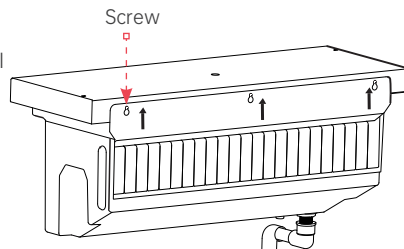

Figure5
2. Use a screwdriver to loosen the three screws on top (Figure 5). After loosening them, push the metal plate upward. Finally, place this metal plate and the curtain onto the top panel.